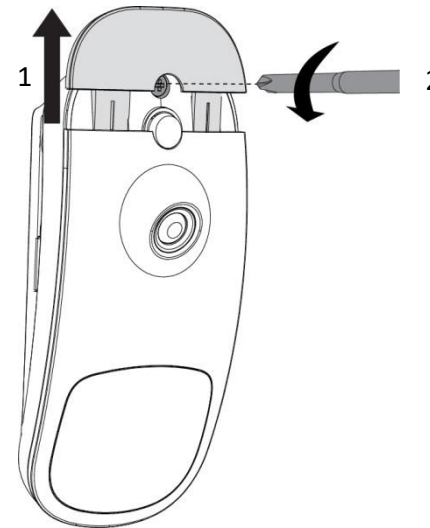

Figure 1
1. Place a battery as instructed in Figure 1 and wait until the Red LED stops blinking.